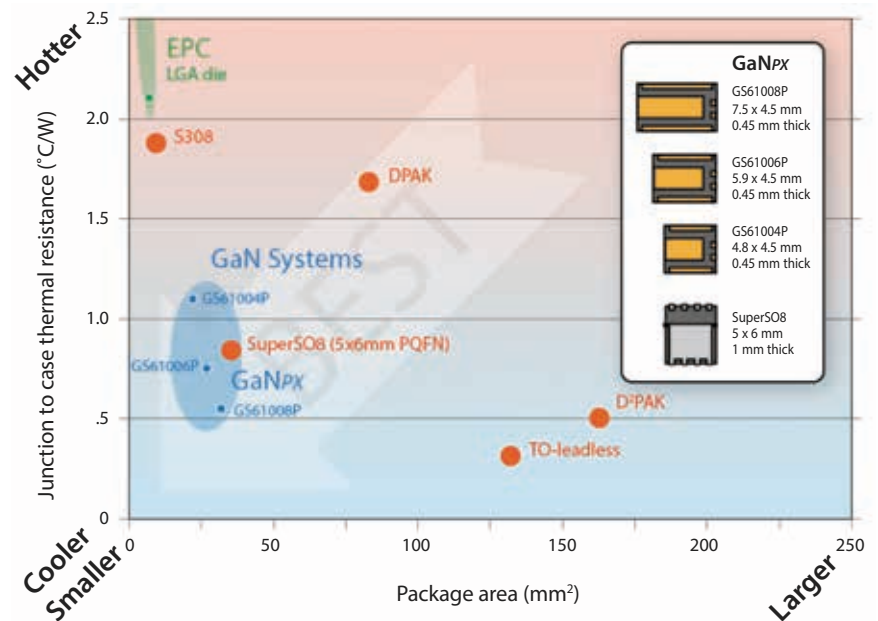

Figure 2. Comparison of Package Area vs. Thermal Resistance.
Miniaturization and thermal benefits were reported in Figure 2(3) where GaN System and AT&S provide a comparison of package area vs thermal resistance. The GaNpx embedded chip in substrate solutions (ranging from 33.75 to 21.6 sq. mm) can provide a smaller and cooler performing package vs. a range of assembly based power package options. Only the 5x6mm PQFN (with Cu clip) achieves similar size